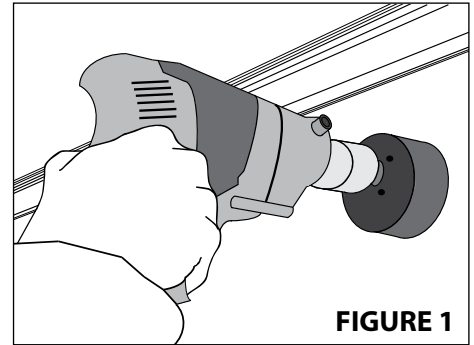

FIGURE 1
1. Locate the position of the inlet on the exterior with reference to the interior. The inlet on the interior should be within 12" of the ceiling. **See Figure 1.**